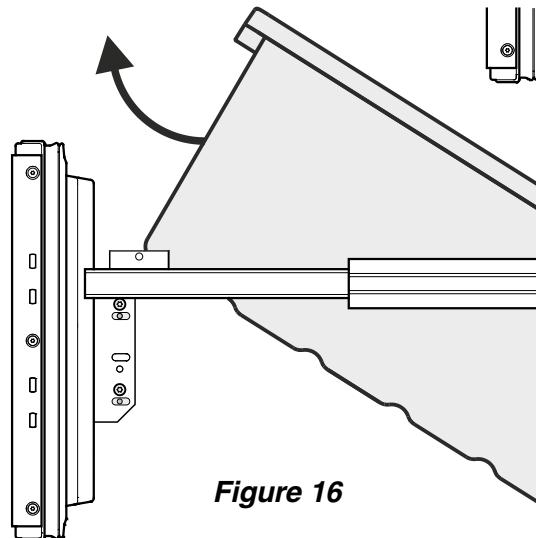

Figure 16
- Tilt the container at an angle and remove - **Figure 16**.